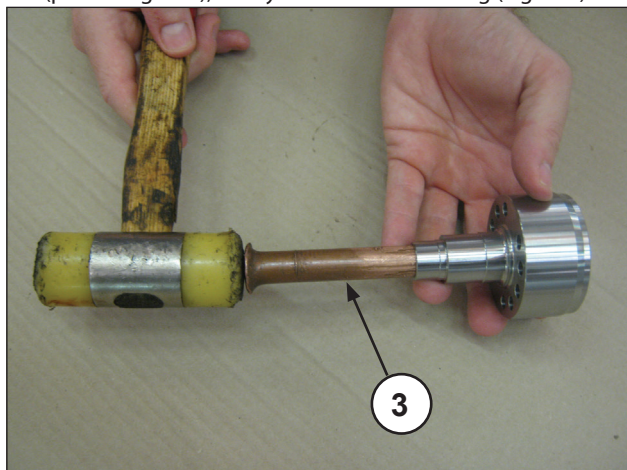
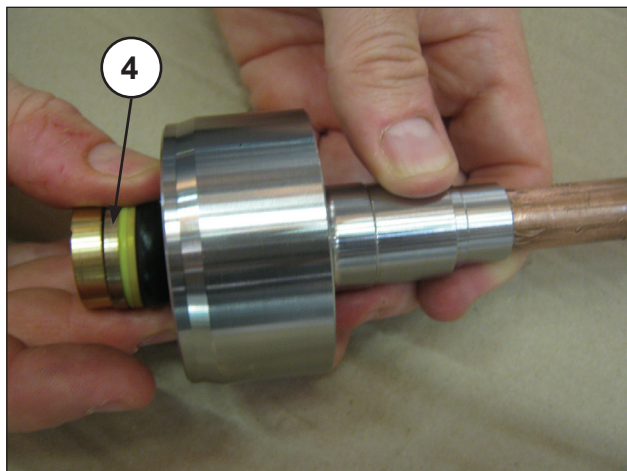
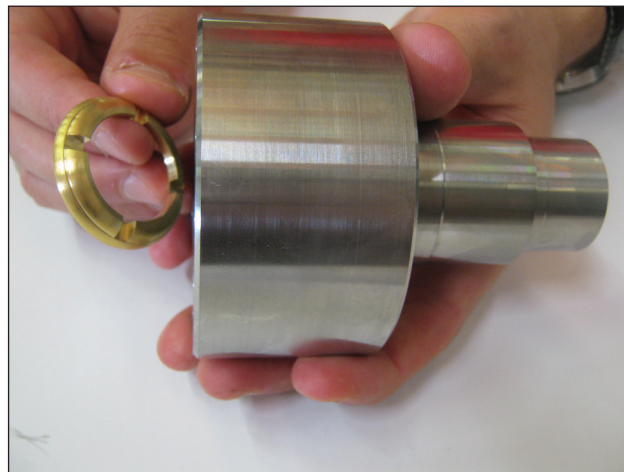

Fig. 128
Fig. 129
Fig. 130
- With separate HP seals support and a special pin (pos. ③ Fig. 128) make the H.P. pack come out. pack (high pressure) (pos. ④ Fig. 129), finally extract the head ring (Fig. 130).
At each disassembly, the HP packing (Fig. 129, pos. ④) must be replaced.